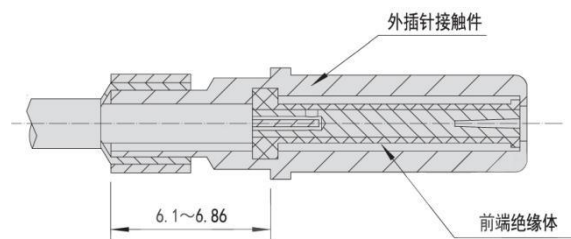

Figure 2.4
- ⑤ Crimp the inner socket contacts with the crimp tool MH992 and the locator K1303
- ⑥ As shown in Figure 2.4, put the inner components into the outer pin contacts under the cable shielding net until the inner socket contacts are fully installed